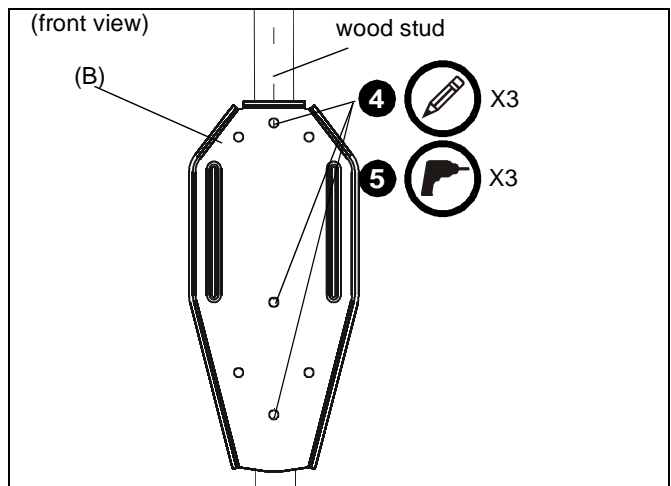

Figure 3
3. Line up inner three holes on mounting bracket (B) with center of stud at desired mounting location. (See Figure 3)
4. Using mounting bracket (B) as a template, mark three holes at the inner three holes in bracket. (See Figure 3)
5. Drill three 15/64" holes at marked locations in wall. (See Figure 3)